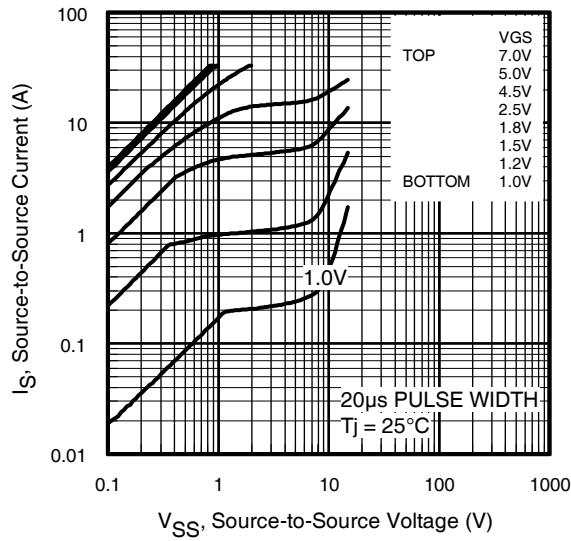
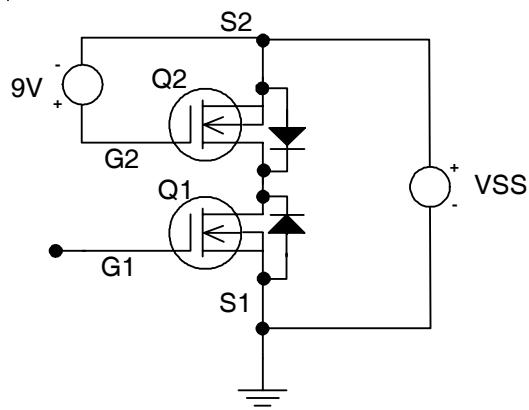

Fig 1. Typical Output Characteristics. ④
Fig 4. Output and Transfer Test Circuit.
- ① Repetitive rating; pulse width limited by max. junction temperature.
- ② Pulse width $\leq 400\mu\text{s}$; duty cycle $\leq 2\%$. Gate voltage applied to both gates.
- ③ When mounted on 1 inch square 2oz copper on FR-4.
- ④ Figures 1, 2 and 3: One Fet is biased with $V_{GS} = 9.0\text{V}$ and curves show response of the second FET. See Fig.4.